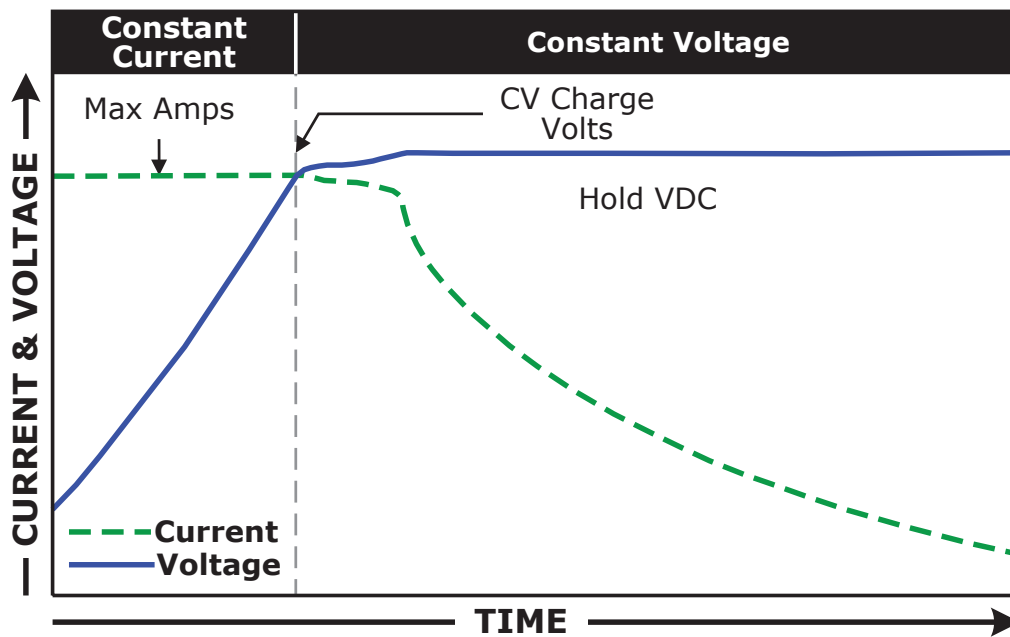

Figure 3-14, Hold VDC Charge Stages
- * **Hold VDC** – This setting holds the battery voltage at the *Chg Volts* setting. This is for a system that requires a constant charge voltage to be present at all times (see Figure 3-14).